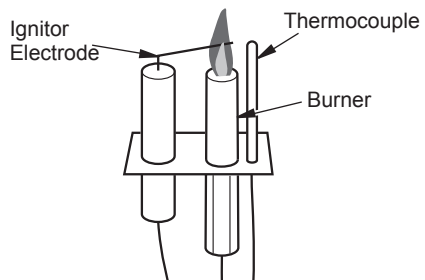

Figure 4 - Pilot
7. Inspect and clean pilot (mounted to bracket) by using a vacuum or apply air pressure through the air holes in the pilot (see Figure 4).